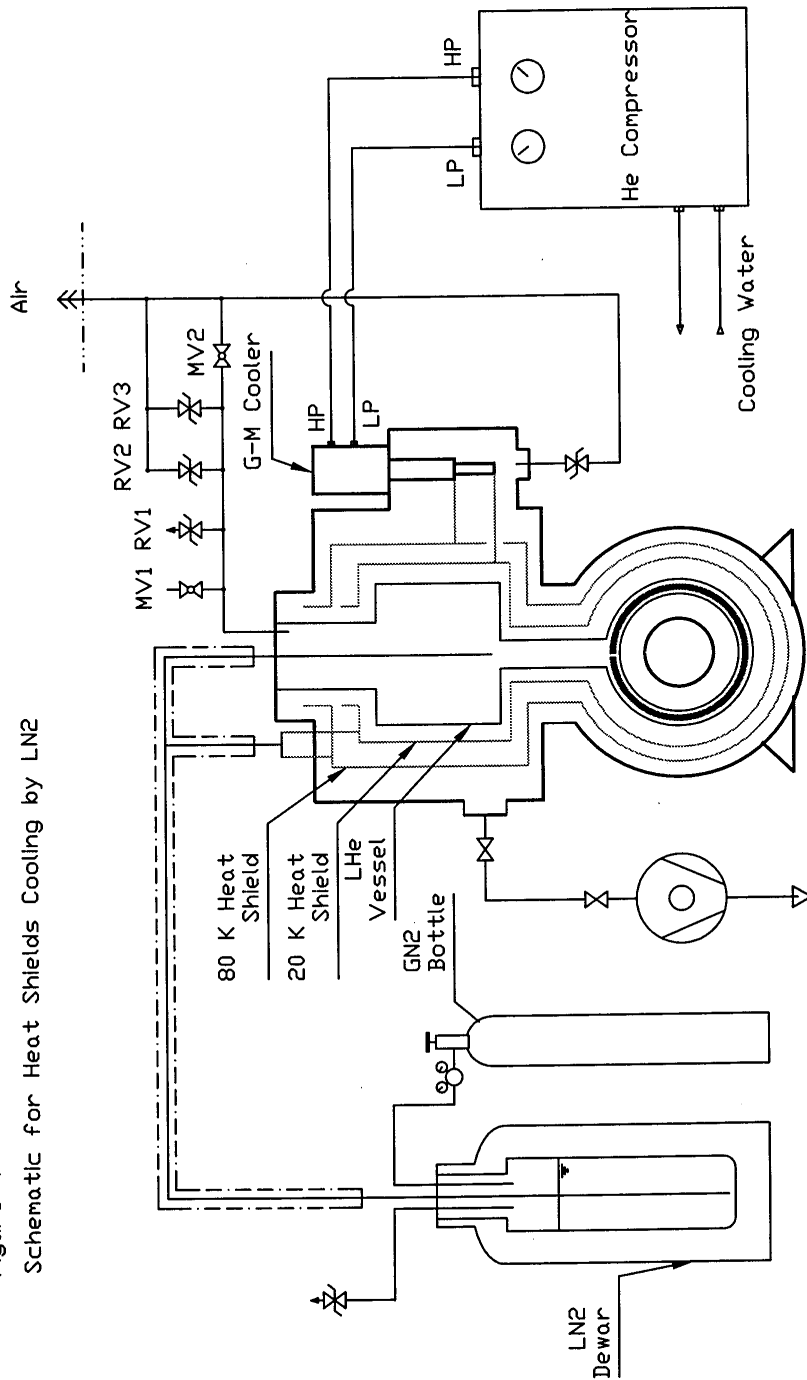

Figure 5
- 5.6.1 Connect vacuum pump and GHe bottle according to Fig. 5.
- 8.6 Figure 5. Schematic for pumping/purging He reservoir.